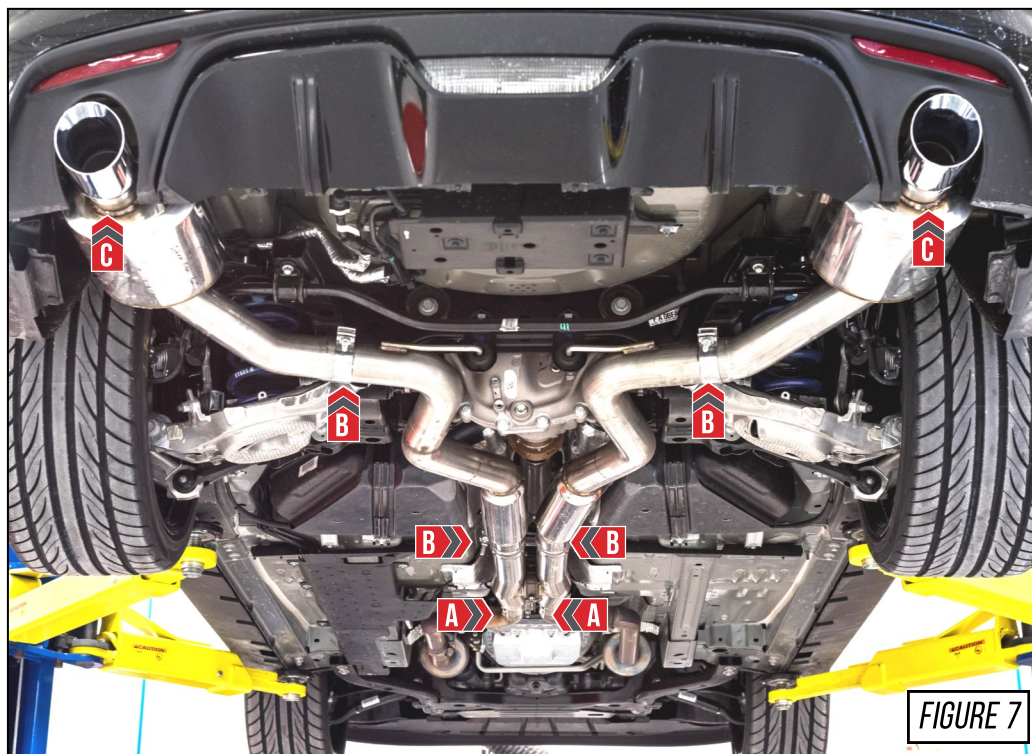

FIGURE 7
Ensure the H-pipe section is level with the chassis. Tighten the factory sleeve clamps to the manufacturer's recommended torque specifications, located by **Arrow A** in **Figure 7**.
Tighten the Accu-Seal clamps to a minimum torque of 40 ft/lbs or until secure with a 15mm socket, as shown by **Arrow B** in **Figure 7**,
Check the tip alignment and secure the T-bolt clamp into location, as shown by **Arrows C** in **Figure 7**, with 7/16" or 11mm Socket. Tighten until the tip doesn't move, then turn the bolt one (1) full turn.